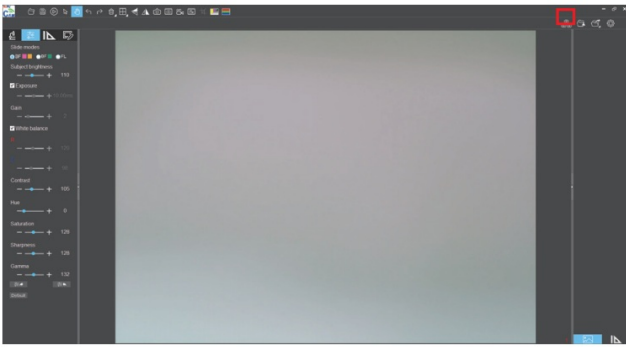
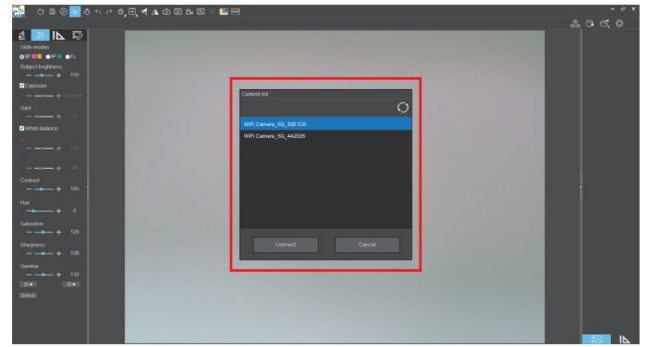

Figure 1
Figure 2
4. When there are multiple network cameras in the same local area network, click the icon "📷" in the upper right corner of KoPa Capture Pro (Figure 1), the list automatically shows all cameras in the current local area network (Figure 2), select a camera as needed, support switching midway at any time.